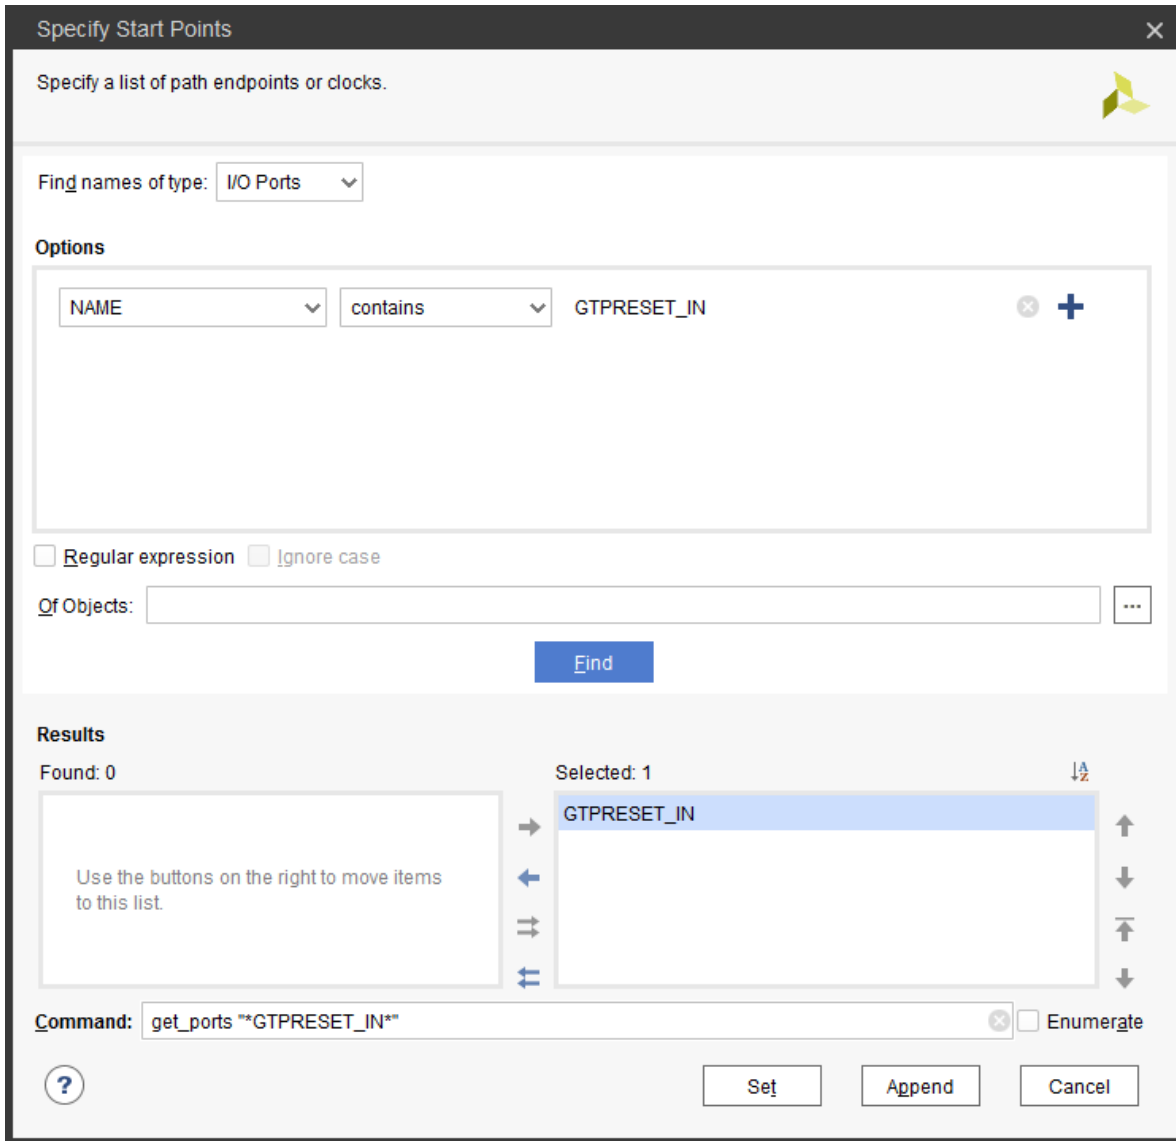

Figure 18: Choose Start Points Window for set_false_path Dialog Box
5. From the **Find names of type** drop-down list, select **I/O Ports** as shown in Figure 18, page 26.